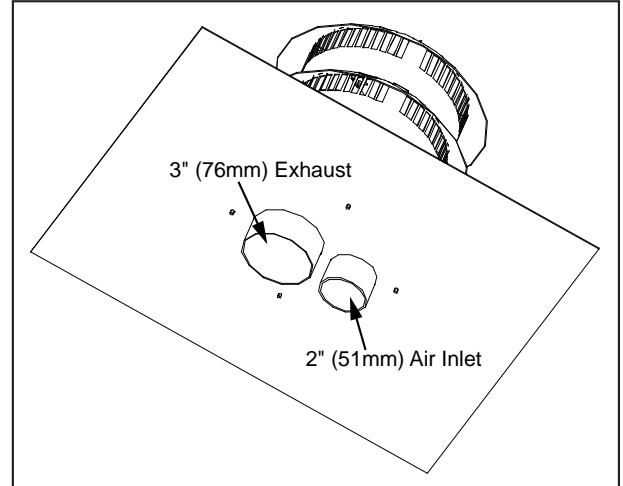

Figure 37: Vertical Vent Cap Underside.
6. Place a bead of high temperature silicone on the intake collar of the fireplace, slide the Ø2" (51mm) flex intake liner over the collar, secure the flex liner with three (3) sheet metal screws evenly spaced.
7. At the top of the chimney, apply a bead of Mill-Pac Black sealant to the Ø3" (76mm) pipe of the vent terminal (refer to Figure 37). Slide the flex liner onto the vent terminal and secure with three (3) sheet metal screws evenly spaced.